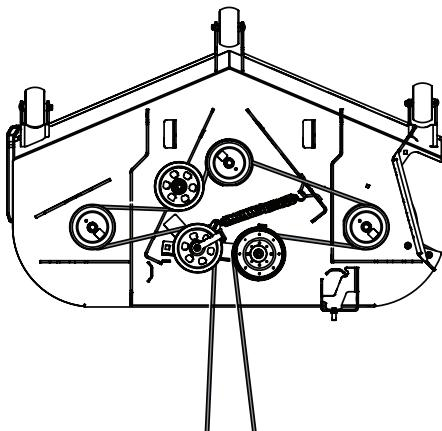

Figure 51
8. Route the belt as shown in Figure 51. Tighten and secure the idler arm hardware.